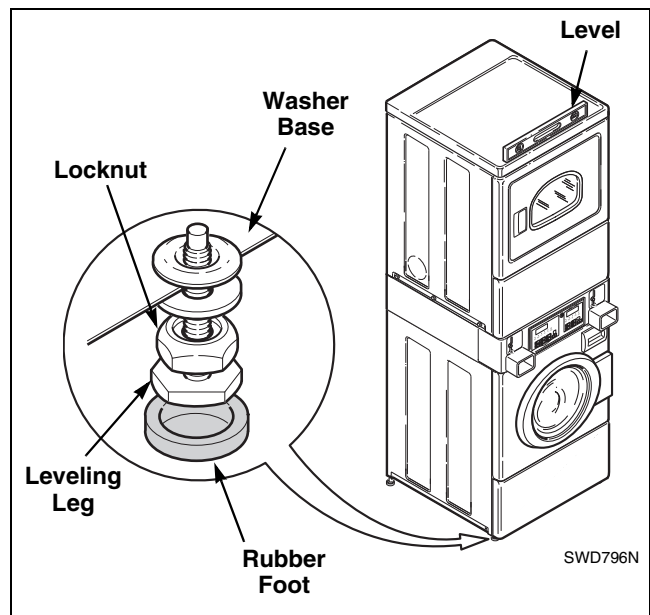

Figure 13
NOTE: Level must be on a raised portion of top panel. Refer to *Figure 13*.
- Loosen locknuts and adjust the leveling legs until the unit is level from side to side and front to back (using a level). Make sure unit **does not rock**. Refer to *Figure 13*.
- Place rubber feet on all four leveling legs. Refer to *Figure 13*.